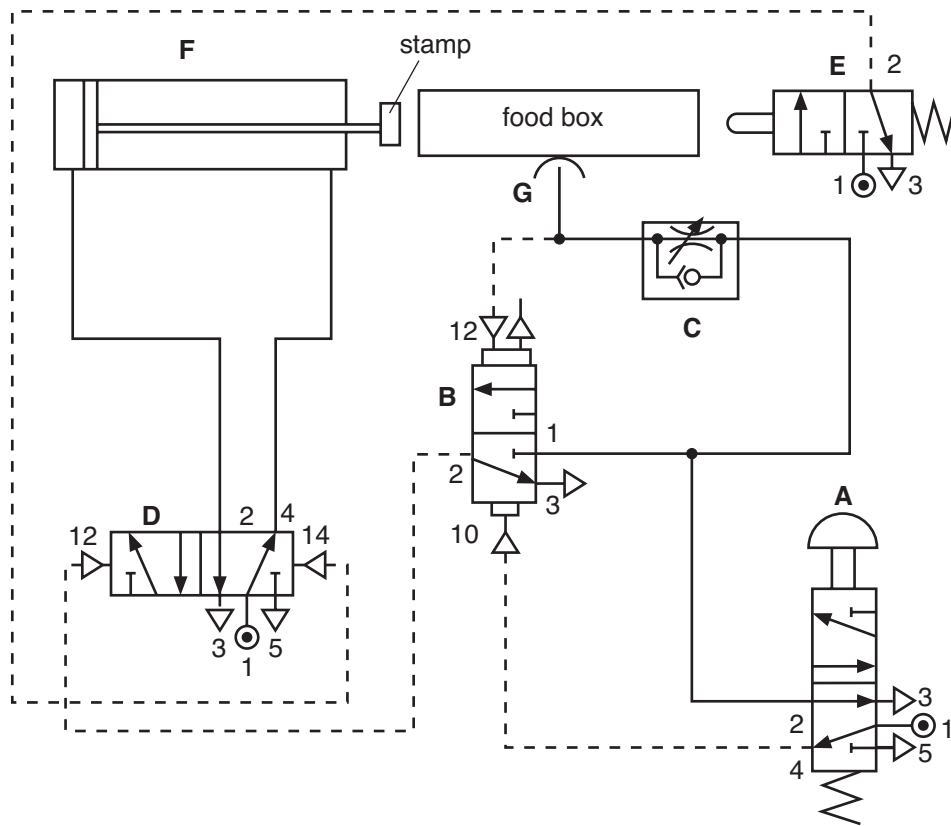

Fig. 12
Fig. 12 shows the pneumatic system for stamping the boxes.
- (b) The food box shown in Fig. 12 can be damaged by the piston out-stroking too quickly. Explain, with the aid of notes and sketches, how the out-stroke can be slowed down without changing the in-stroke speed. [4]